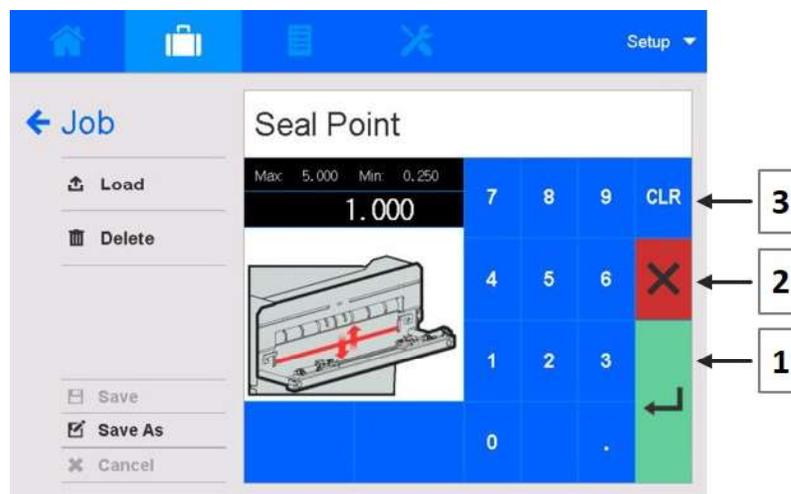

FIGURE 3-55. EDIT SEAL POINT VALUES
- a. tap the green SAVE/RETURN arrow (Figure 3-55, item 1).
- a. tap the red X button (Figure 3-55, item 2).
- a. tap the blue CLR button (Figure 3-55, item 3).